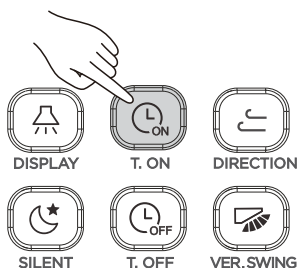

Figure 3.17
- ① Press  (see Figure 3.17), and the remote controller will display "Timer On", and "0.0h Later On" will appear in the timer area. Adjust the Timer On settings now;